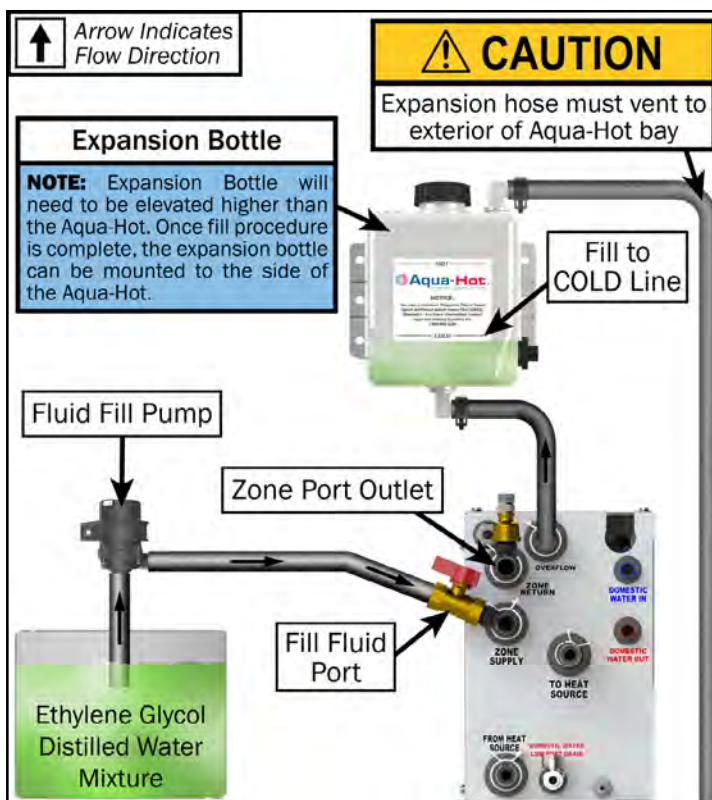

Figure 85
4. Locate the fluid fill port (shown in Figure 85).